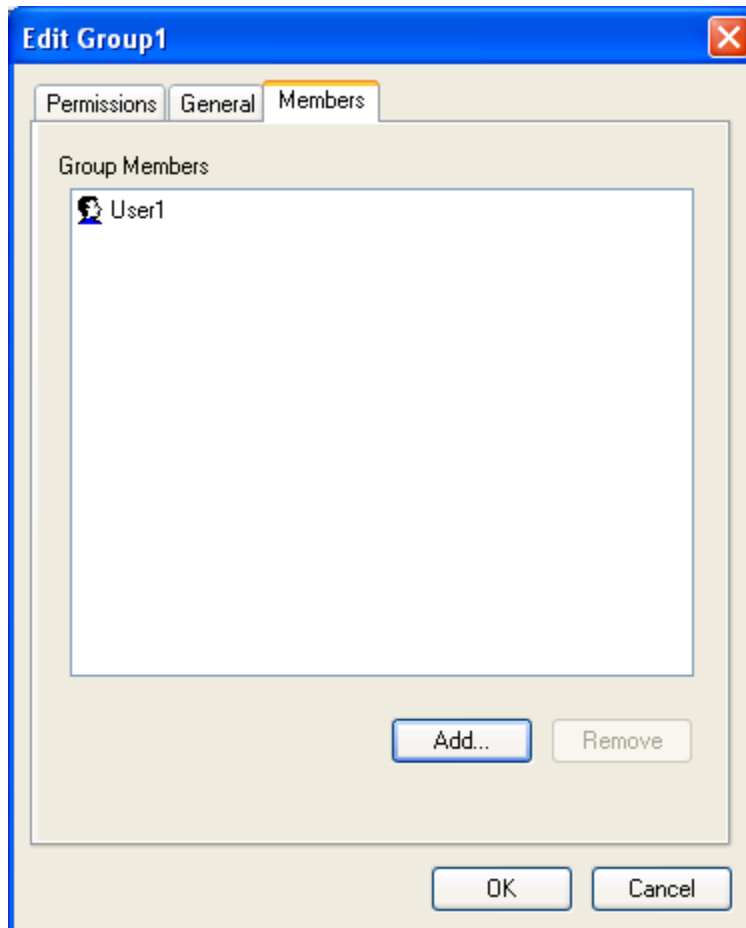

Figure 80 - Edit <Groupname> Window (Members Tab)
On the **Members** tab (Figure 80), the users that are part of the current group are defined. By default, the **Group Members** screen section is empty. In Figure 80, **User1** has been added to **Group1**.
3. Click on the **OK** button. The selected user or users appear in the **Group Members** screen section on the **Members** tab (Figure 80).